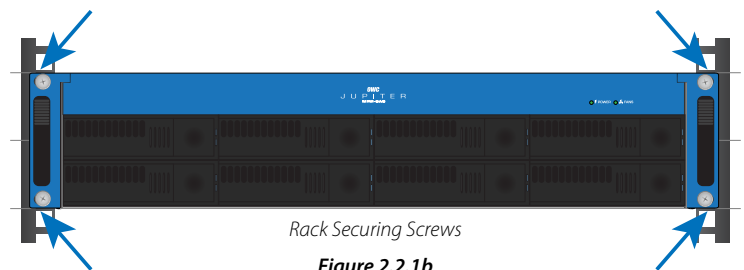

Figure 2.2.1b
6. Install the four included rack securing screws to finish the unit installation into the rack as seen in **Figure 2.2.1b**.